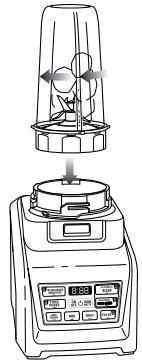

Fig. 3
- 5 Turn the Nutri Ninja Cup upside down and place it onto the motor base, aligning the tabs on the cup with the motor base. Rotate the Nutri Ninja Cup clockwise until it locks in place, you will hear a click when the lock is engaged. (Fig. 3)